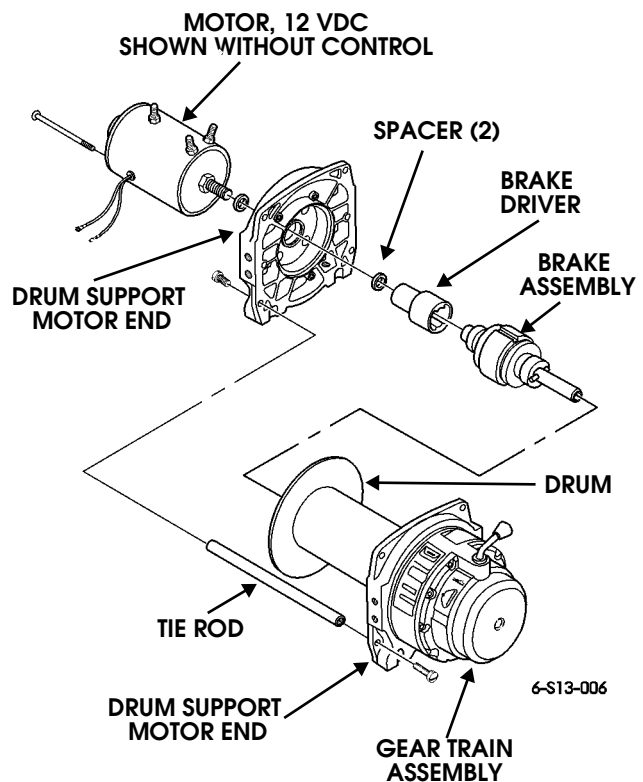

Figure 13-8: Drum Support and Gear Train Assembly
5. Mark motor end drum support, gear train assembly, and gear end drum support for assembly (Figure 13-8).
9. Remove drum assembly from gear train assembly (Figure 13-8).